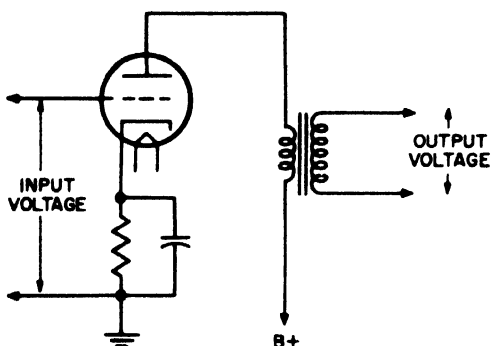

Fig. 27-2. Diagram showing what is meant by a stage of amplification.
**The Gain of a Stage.** In addition to the amplification furnished by the tube, there may be the amplification due to the step-up action of the transformer. Figure 27-2 shows what is meant by a *stage of amplification*. We may calculate the amplification, or gain, of this stage by dividing the output voltage by the input voltage. Thus, if the output voltage is 50 volts and the input voltage is 5 volts, the amplification furnished by this stage is 50 divided by 5, or 10.